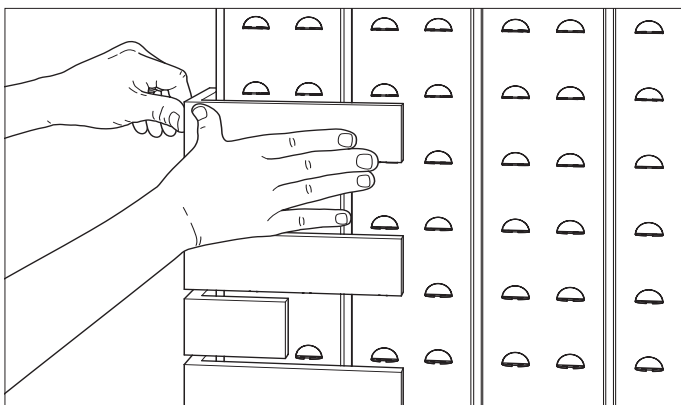

FIGURE 9
- Adhere brick beginning with the bottom course and continue up the wall. Install the corner units at end of the wall first, alternating the short and long ends of corners at each course, for running bond (see Figure 9).